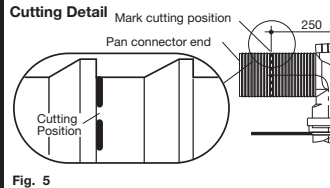

Fig. 5
- 6- Cut pan connection end at the back of the serration which is nearest to the mark. Remove any rough edges and chamfer with fine file, as detailed in **Fig.5**.